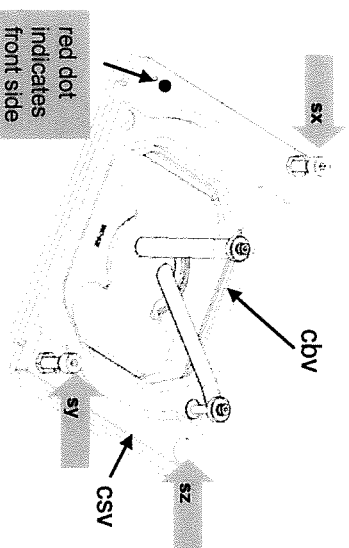

Fig. 1 Adjustable sample holder – schematic view
2. Draw fiber plug of X-Cite completely out from the X-Cite casing. Start acquisition. The image will be dark since fiber was pulled out. Put fiber back and slowly move in until you will see a coarsely adjusted image to have sufficiently reduced light levels you can work with (Fig. 2A). (Note: with the fiber all in, the lamp is simply to bright leading to oversaturation of the camera). If the illumination is far from being centric, the sample is already strongly tilted and it is recommended to do a pre-adjustment. To this end adjust the edges of the clefs viewed from the right side (Fig. 1, *csv*) and back side (Fig. 1, *cbv*) to be parallel using screws *sy* and *sx*, respectively (Fig. 1). The clef's width should be approximately 2 mm as preset by the factory, but can be adjusted with screw *sz* if needed.
8. Turn nosepiece back to free position. Than level stage by turning the screws of the sample holder (Fig. 1, *sx* & *sy*) until the more or less focused circle of the fiber overlaps with the ROI-circle (Fig. 2H).